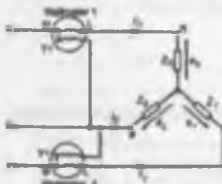

Figure 20.15
- (a) A connection diagram for the two-wattmeter method of a power measurement is shown in Fig. 20.15 for a star-connected load.
However, $(e_R - e_B)$ is the p.d. across wattmeter 1 in Fig. 20.15 and $(e_Y - e_B)$ is the p.d. across wattmeter 2. Hence total instantaneous power,